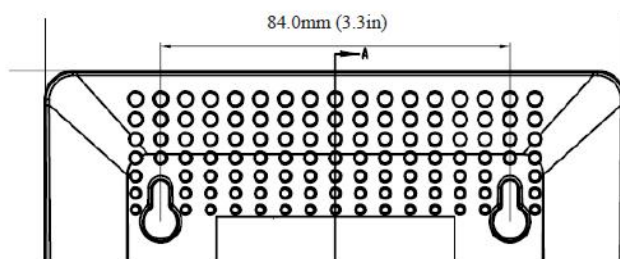

Figure 1: Distance (horizontal) Between Brackets for Screws
1. Install two screws horizontally apart on a wall using the measurement shown in Figure 1. The screws should protrude from the wall in order to fit the device between the head of the screw and the wall. If the screws are installed in drywall. Use hollow wall anchors to ensure that the unit does not pull away from the wall due to prolonged strain from the cable and power connectors.
Refer to Figures 1 and 2 for more details.